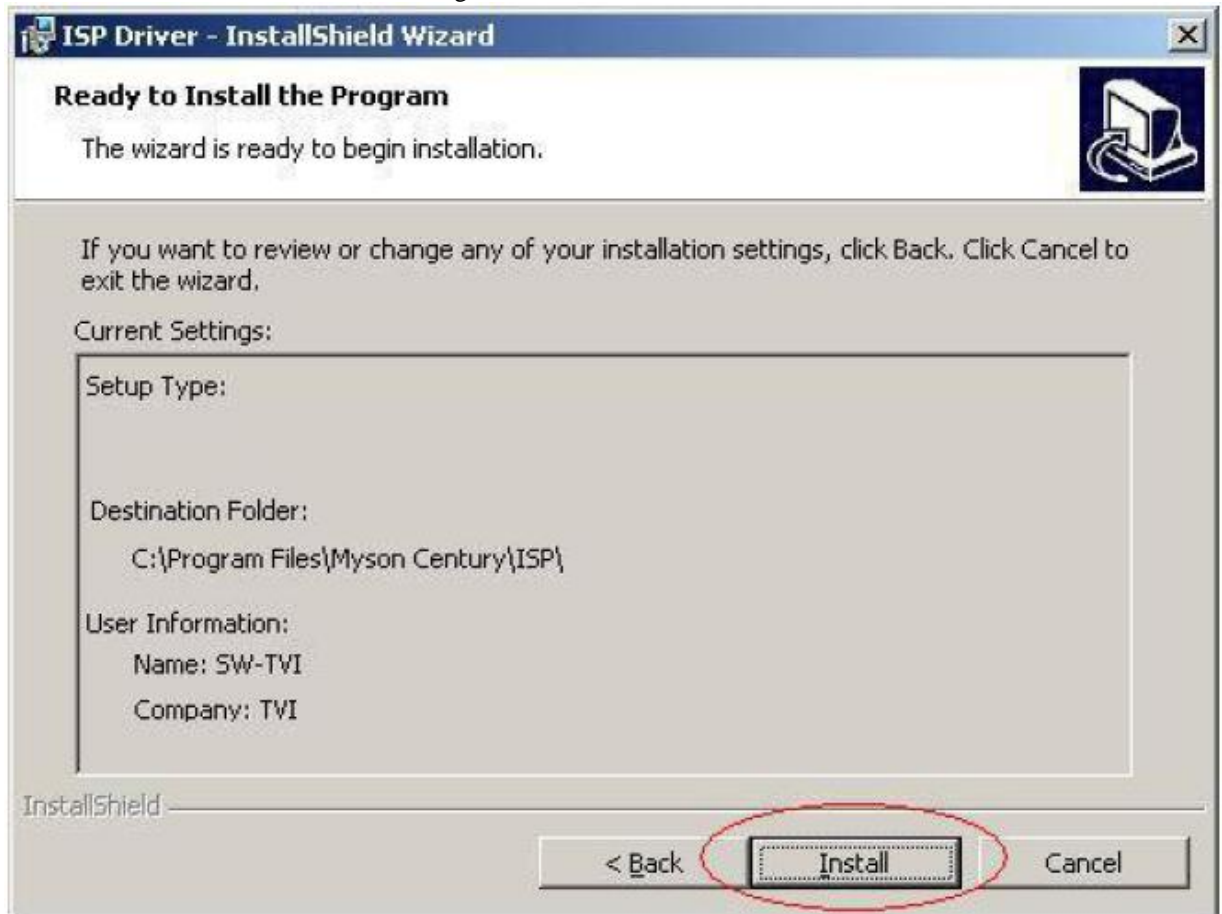

Fig. 1.3
1.5 Press “ Install “ button to continue , see Fig 1.3